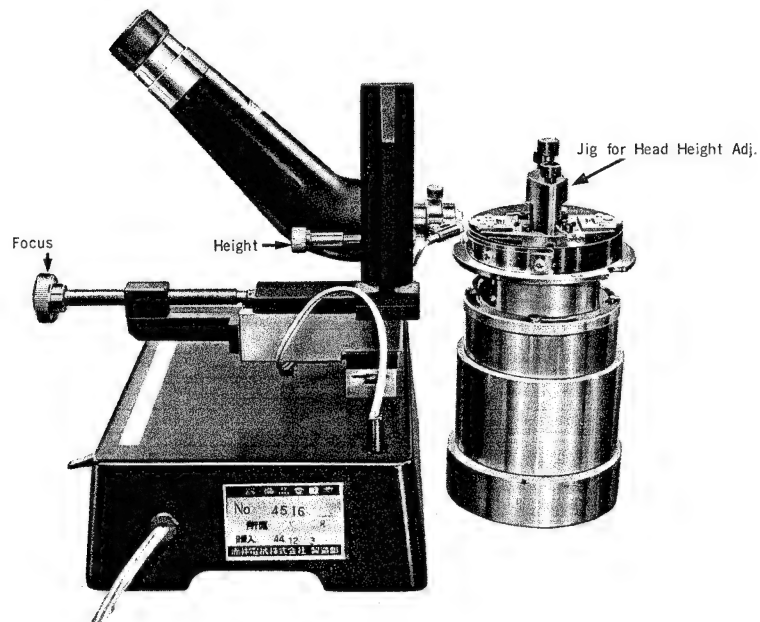

Fig. 1-16
(4) **Video Head Height** (ref. fig. 1-16)